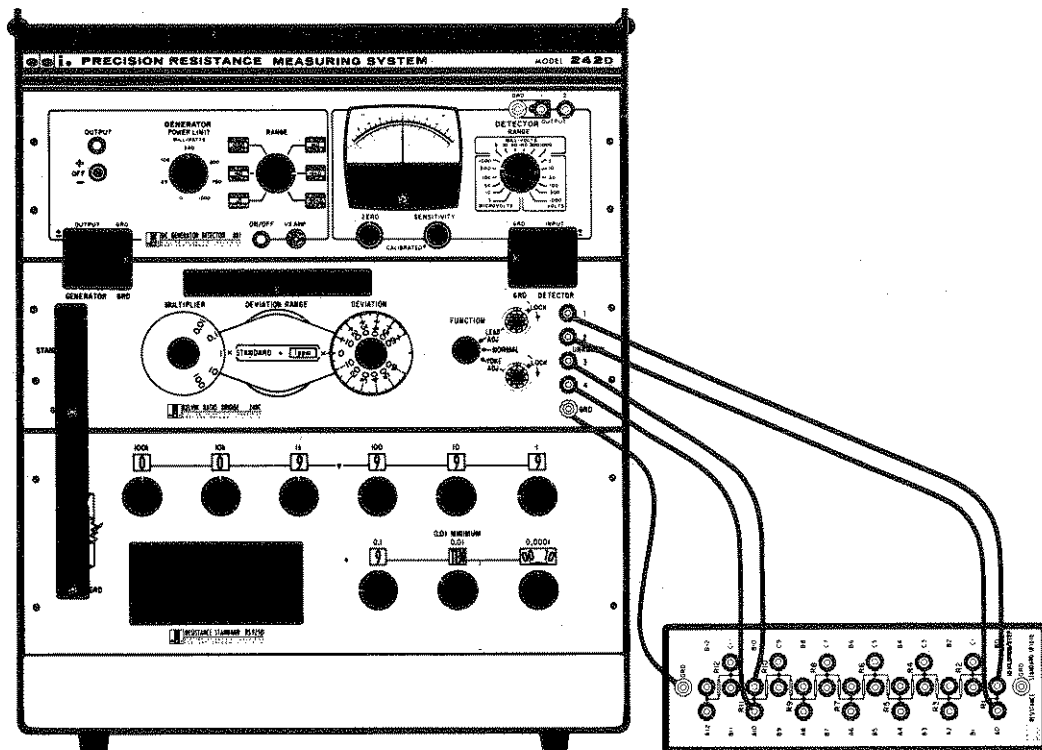

Figure 3-1. Transfer Standard Connection
- Connect the appropriate transfer standard to the UNKNOWN terminals of the bridge using four-terminal connection as illustrated in Figure 3-1. Start with two resistors of the 100-ohms-per-step standard, then proceed to three resistors in series and so forth to eleven resistors. Then do likewise with the 1-kilohm-per-step transfer standard, the 10-kilohms-per-step and the 100-kilohms-per-step transfer standards. (See Table 3-1.)